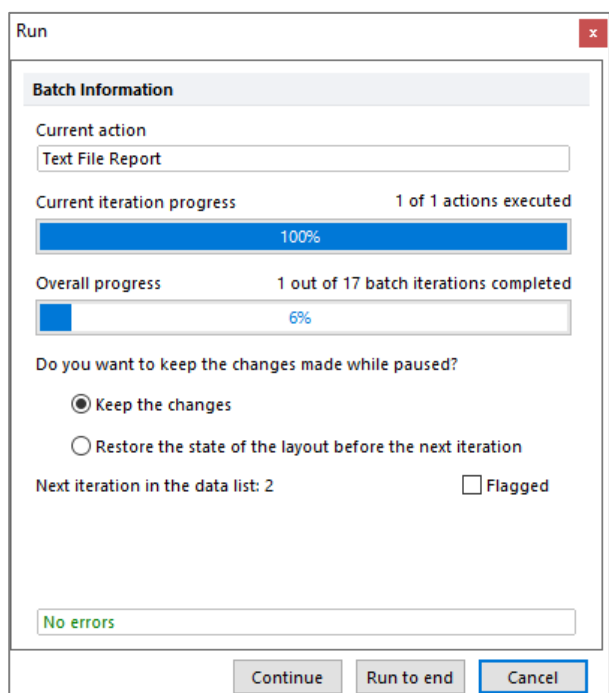

Figure 25. Iteration of measurements to convert .fcs files to .csv files
18. Now check the gates of the second measurement and click *Continue* in the window that opens (see Figure 25) to proceed to the next measurement. If *Keep the changes* is selected, the adjustments will be applied to all measurements. If you do not want an adjustment to be applied to all measurements, select *Restore*